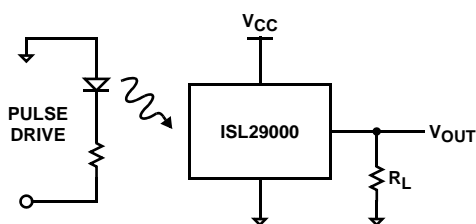

FIGURE 1. RISE/FALL TIME MEASUREMENT
- Switching time measurement is based on Figures 1 and 2.
For some applications, a load resistor is added between the output and the ground as shown in Figure 1. The output voltage can be expressed in Equation 2: